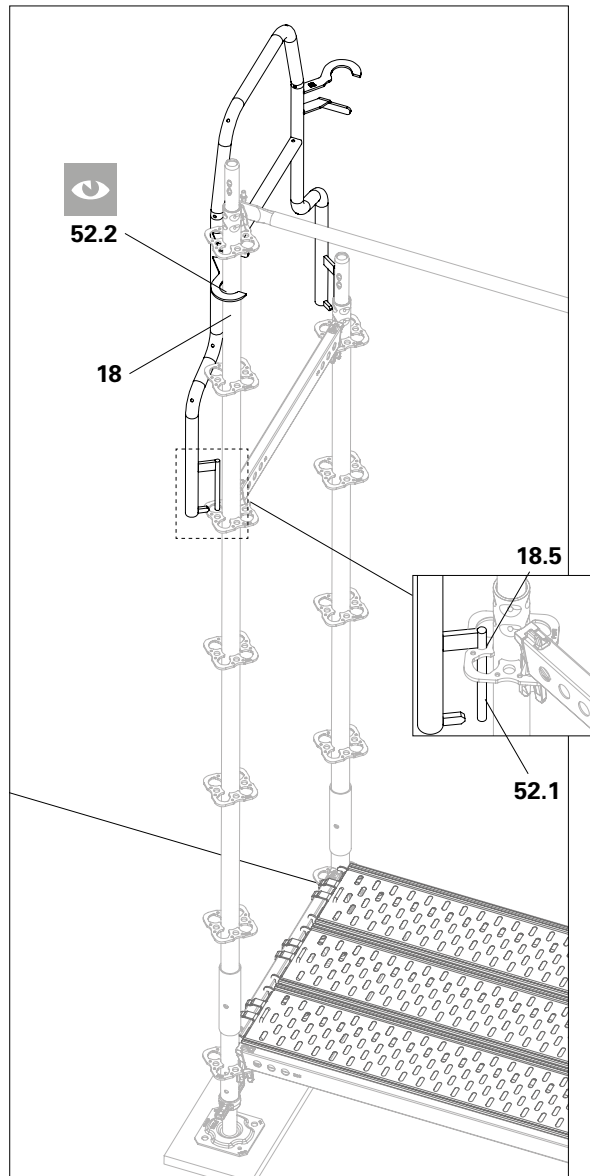

Fig. A3.10c
3. Raise the end guardrail in advance and insert the pegs **(52.1)** into the brace adapters **(18.5)** of the rosettes from above. Lower the end guardrail in advance as far as it will go. (Fig. A3.10c)
(Fig. A3.10c)